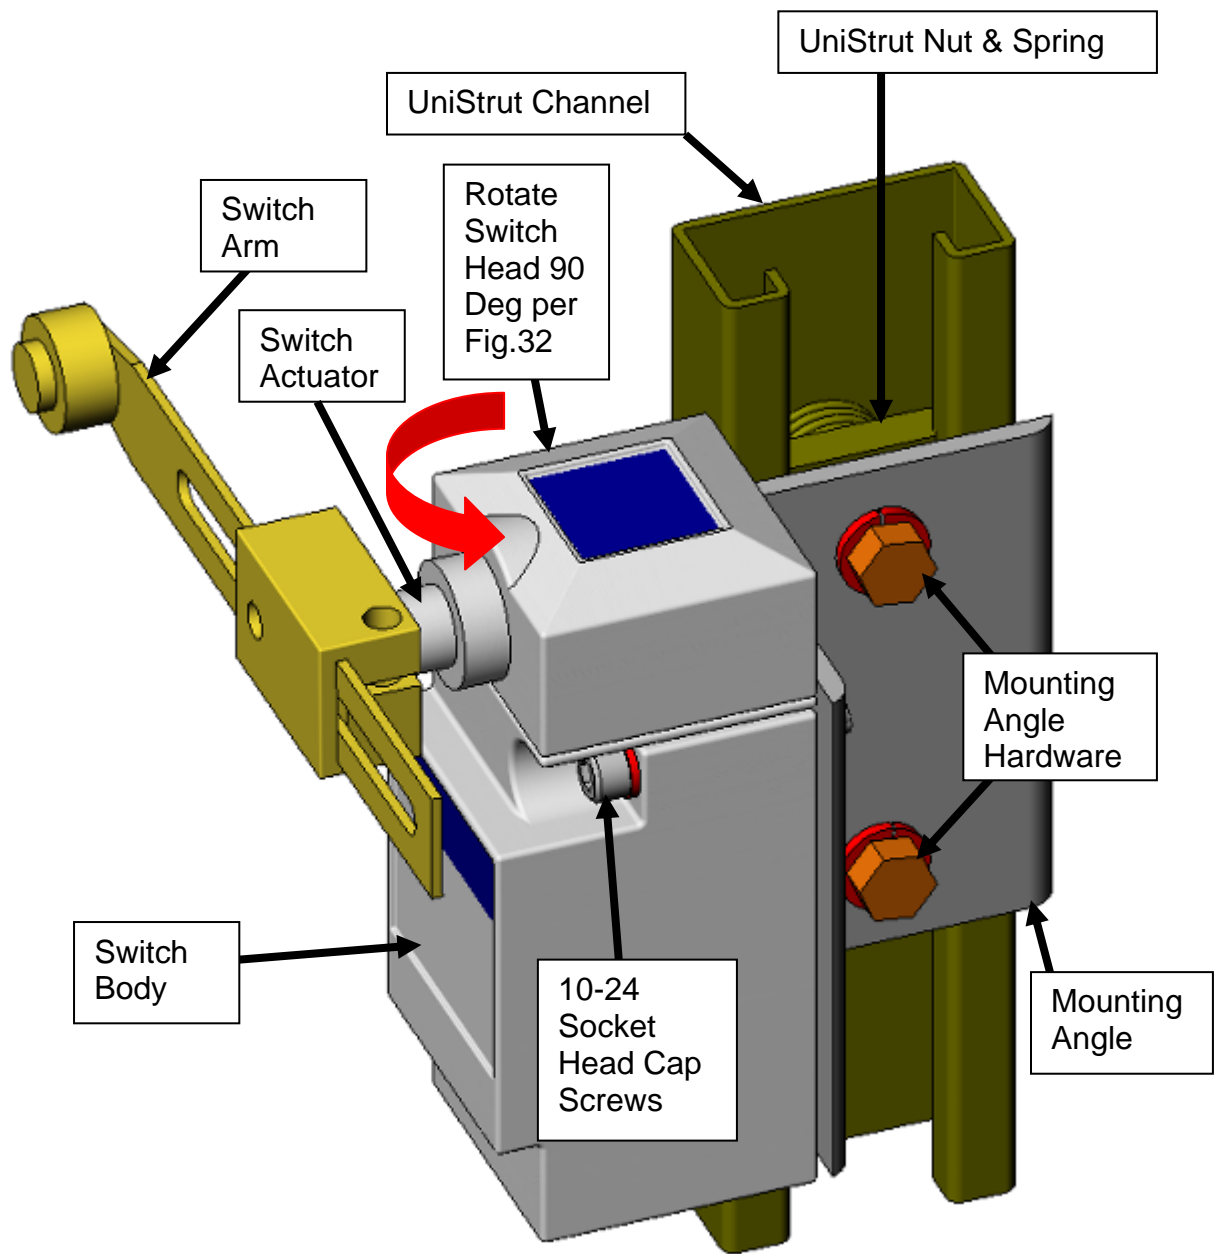

Figure 31 Level Limit Switch Kit Assembly
2. Find & assemble the adjustable limit switch kits as shown, including the Unistrut mounting channel (**Fig. 31**).
1. Find & assemble the adjustable limit switch kit as shown, including the Unistrut mounting channel (**Fig.31**).
6. Lower the Freightlift a few feet (you must stop the lift using the E-Stop button) and bring it back up. If the carriage is above or below the floor, adjust limit switch arm as needed. Repeat for each level (**Reference Fig. 31 for adjustment**).